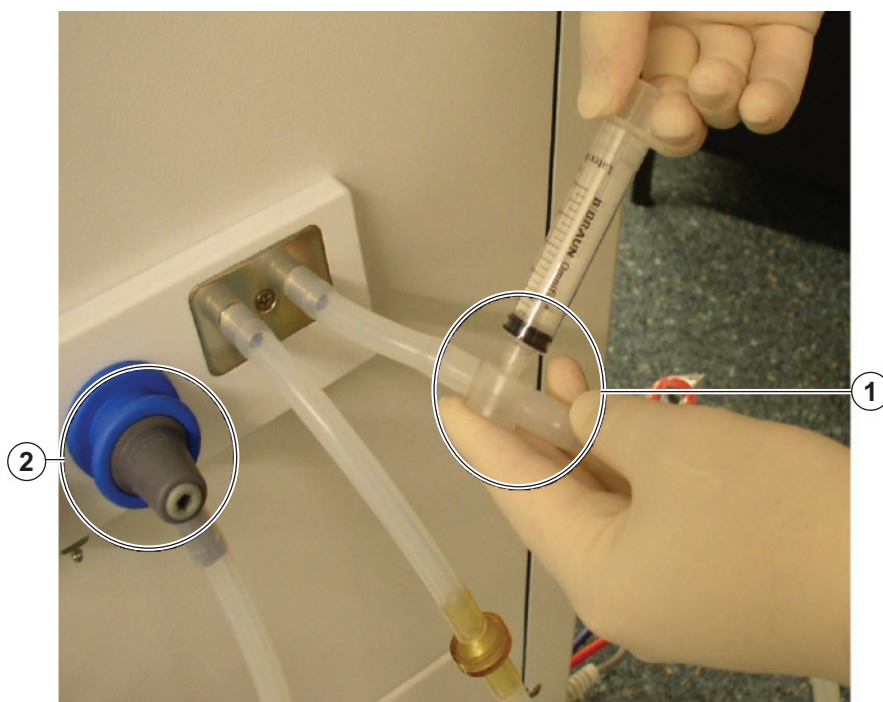

Fig. 11-32 Sample port
2. Slowly take a sample from the sample port at the dialysis fluid DF tubing, using a small syringe, e.g. a 2 ml syringe (Fig. 11-32).